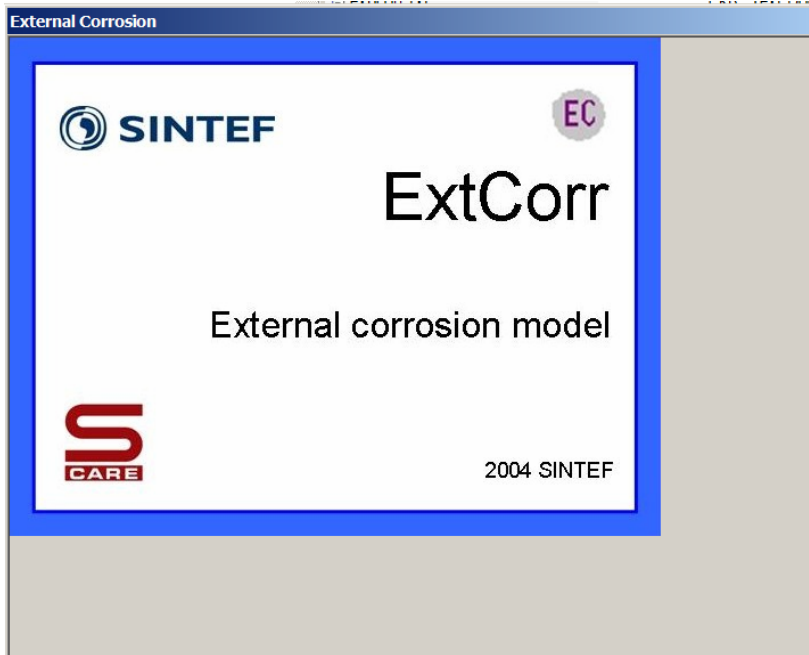

Figure 1: Opening page of the Load_model
- Step 1.3 Once the relevant auto-load has been completed, select run 'ExtCorr tool' from the External corrosion menu option. The tool will then be started and the opening page is shown (figure 1) for a few seconds before the tool switches over to the main page (figure 2). Continue with step 3 if the tool is run from the Rehab Manager
- Step 2.1 Start ExtCorr model with the execute file. The tool will then be started and the opening page is shown (figure 1) for a few seconds before the tool switches over to the main page (figure 2).